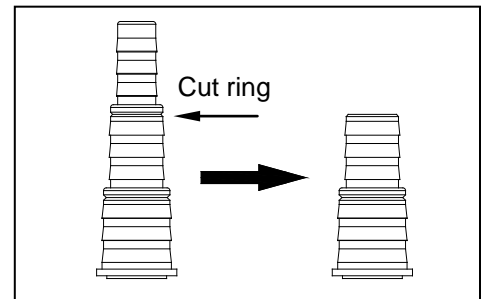

Fig. 1
1. The adapters included can connect to 1/2-in., 3/4-in. or 1-in. tubing. Note that 3/4-in. tubing is recommended for optimum performance. If using 1/2 in. ID tubing, proceed to step 2. If using 3/4 in. ID tubing, cut the adapter as shown using a hacksaw. Fig. 1